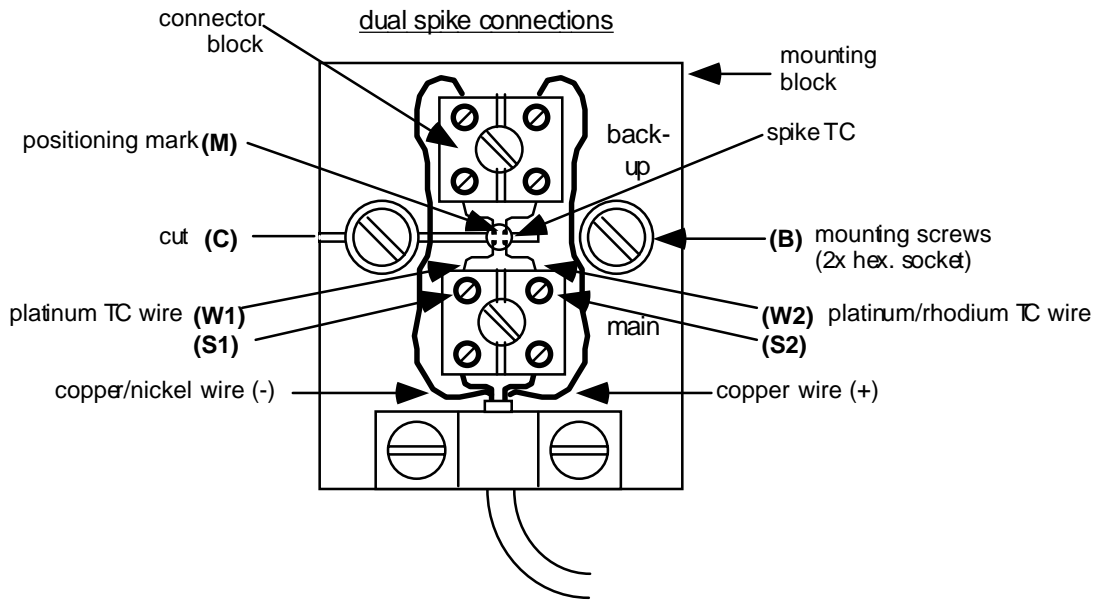

Figure 8-6 Spike TC Connections
Figure 8-6 will help you to follow the description of the spike TC removal and installation procedures. It shows the spike TC and extension wire connections to the connector block(s) of the new model TC mounting (shown with dual spike TC - main and back-up). The main TC is
Letters in brackets - for example (B) - refer to the items in Figure 8-6 "Spike TC Connections" on page 76.
Letters in brackets - for example **(B)** - refer to the items in figure 8.6.